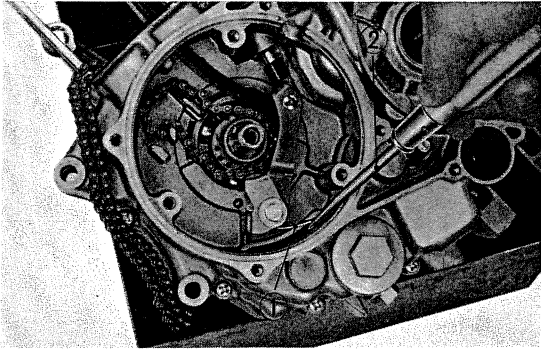

Fig. 79 Cam chain tensioner installation
① Stator ② Cord grommet ③ O ring
- 2) Assemble cam chain tensioner on the tensioner arm pin, hook the spring on the arm, and then install the tensioner arm adjusting bolt. (Fig. 79)